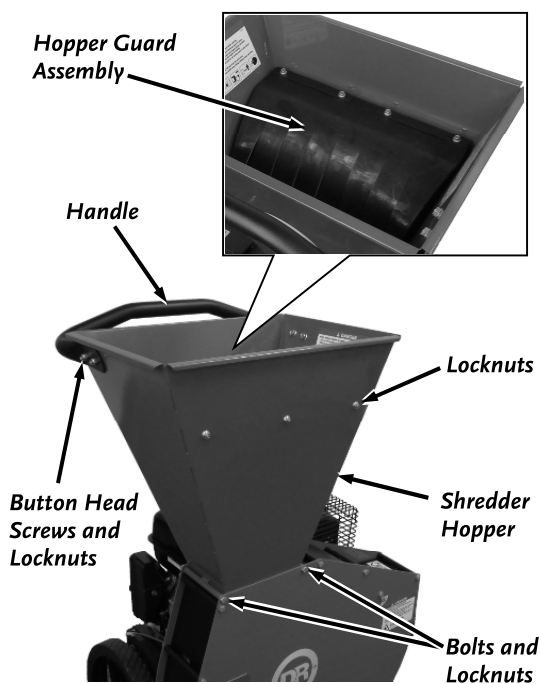

Figure 3
1. Position the Shredder Hopper onto the Power Unit with the handle mounting holes facing the engine side (**Figure 3**).